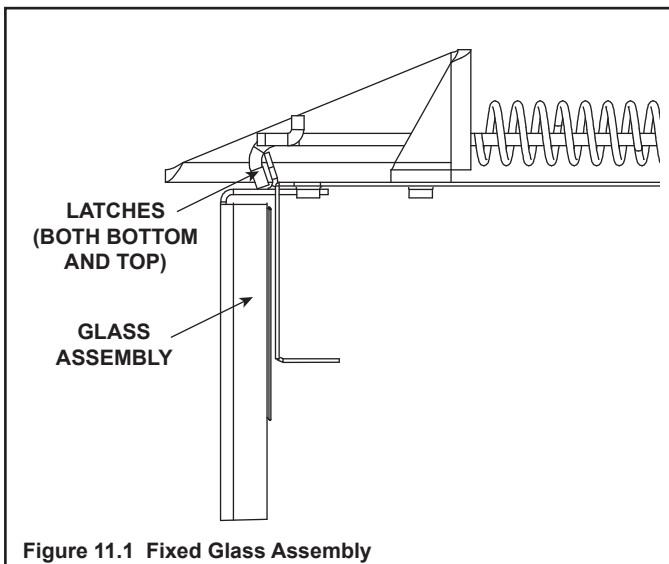

Figure 11.1 Fixed Glass Assembly
- Pull the four glass assembly latches away from the tabs on the glass frame. Remove glass assembly from the appliance. See Figure 11.1.